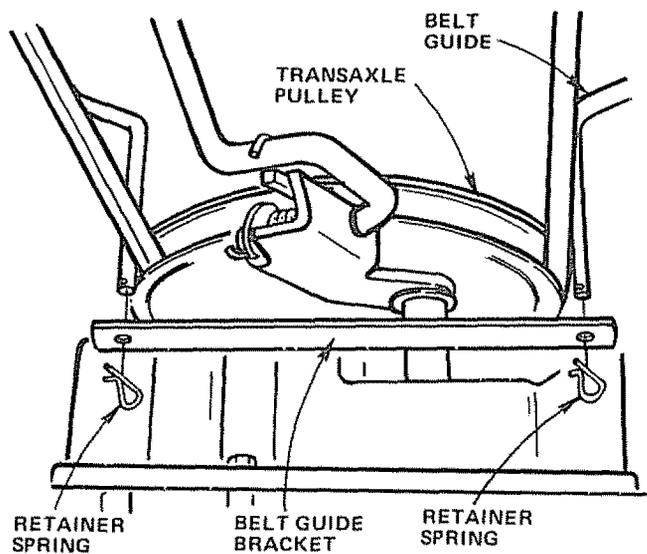

FIGURE 32
- Remove two Retainer Springs from Belt Guide Bracket below Transaxle Pulley. Remove Bracket (Fig. 32).
- Swing Belt Guides away from Belt, toward rear of tractor (Fig. 32).